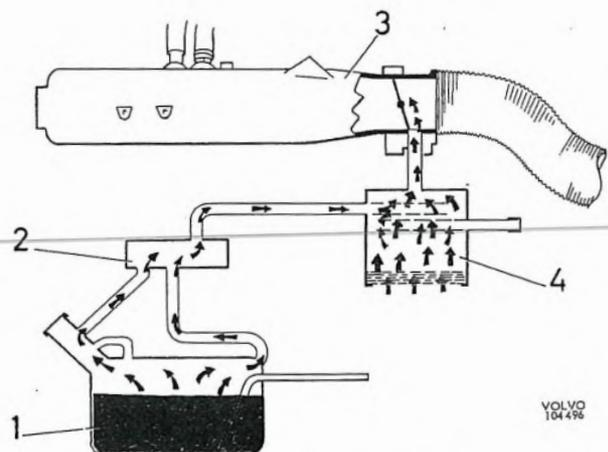

Fig. 2-86. Gas evaporative control system, principle
the expansion container (2, Fig. 2-86) and from there to the venting filter (4) where they are mixed with the active carbon.